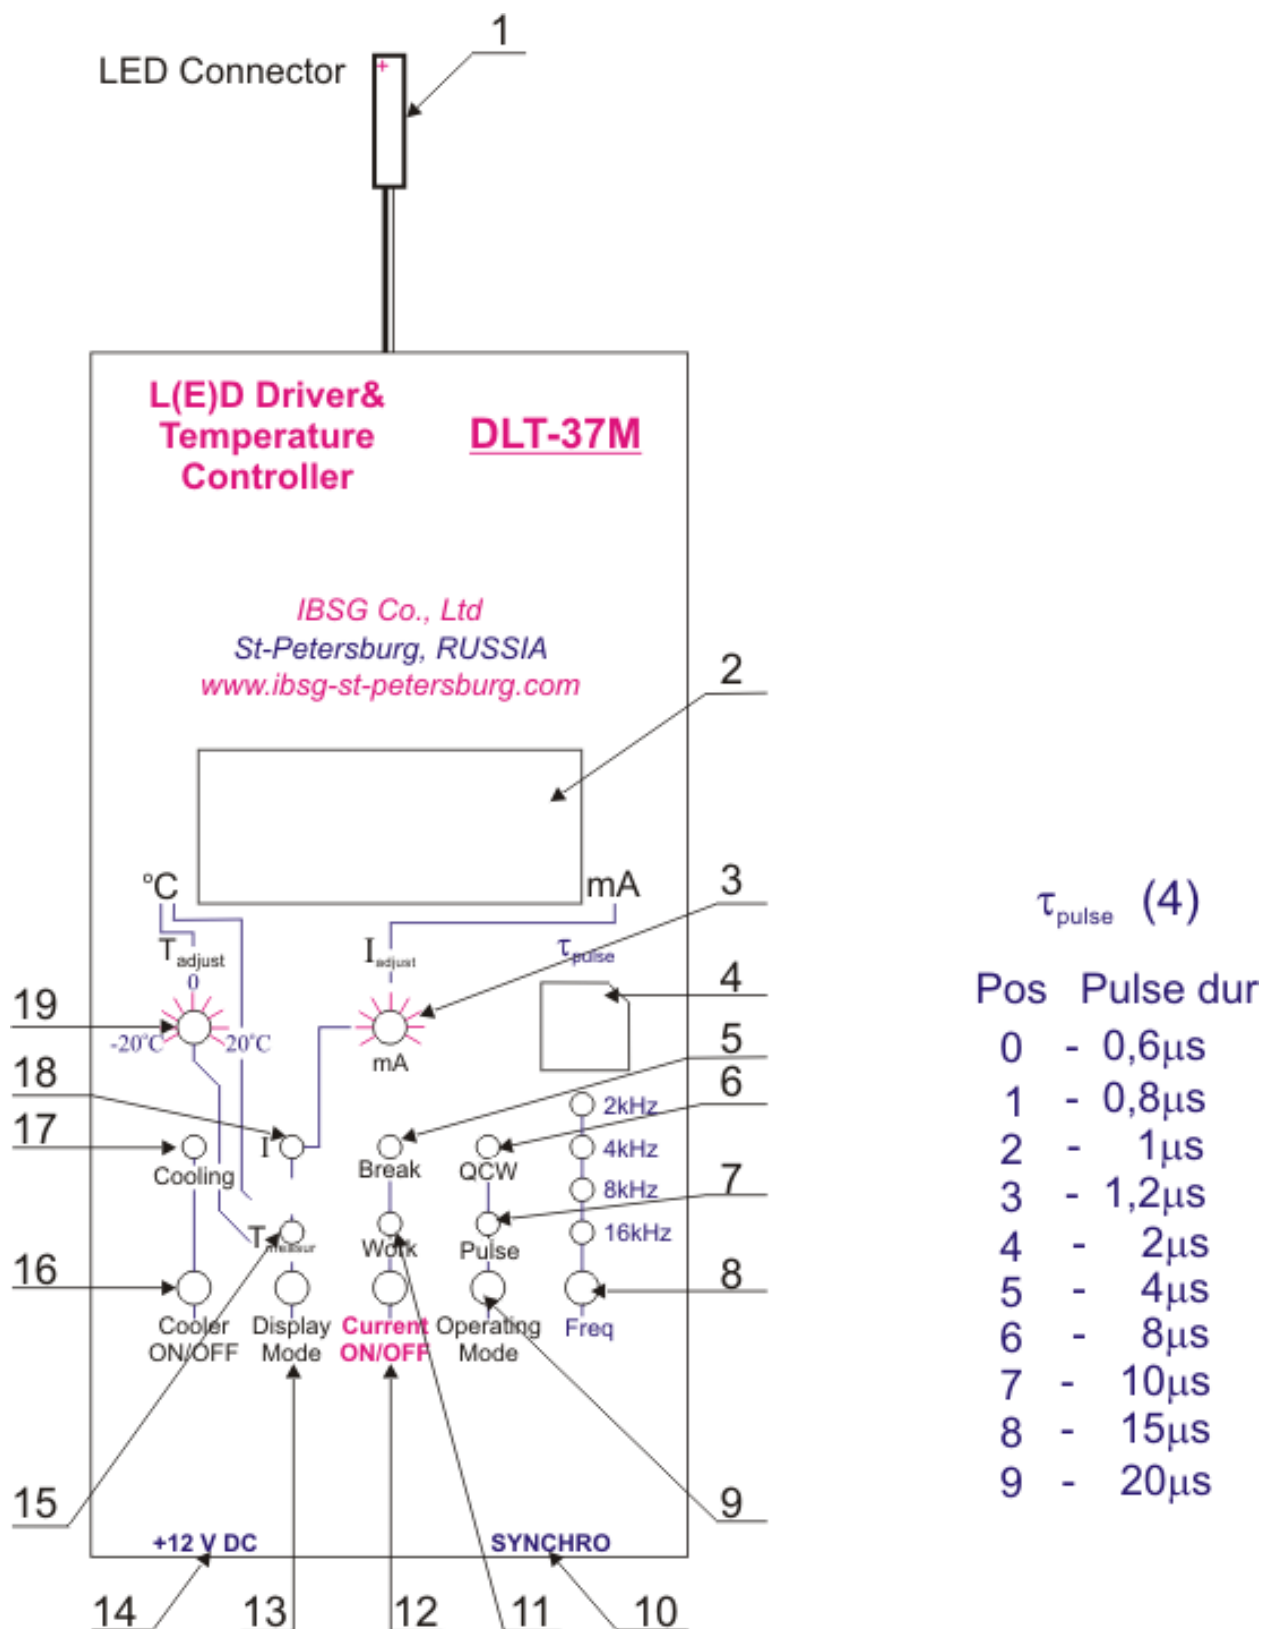

Fig.1. Appearance of the driver and its interface.
9. Using the button “Freq” (8) select one of four values of frequency. In the case of working in the pulse mode select the requisite value of pulse duration by adjusting the switch “ τ_{pulse} ” (4) and using the table in fig.1 (page 5).